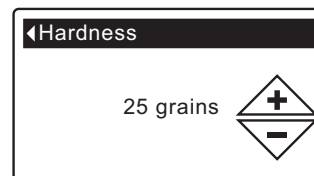

FIG. 43
5. Press the SELECT (O) button to display the Hardness screen (See Figure 43).